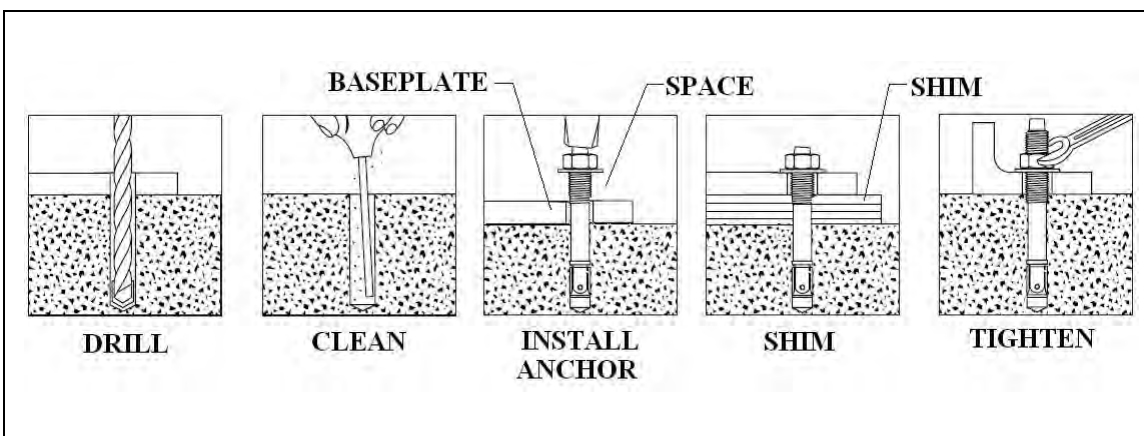

Figure 22. Anchor installation
2. Refer to **Figure 22** while reading through these instructions.